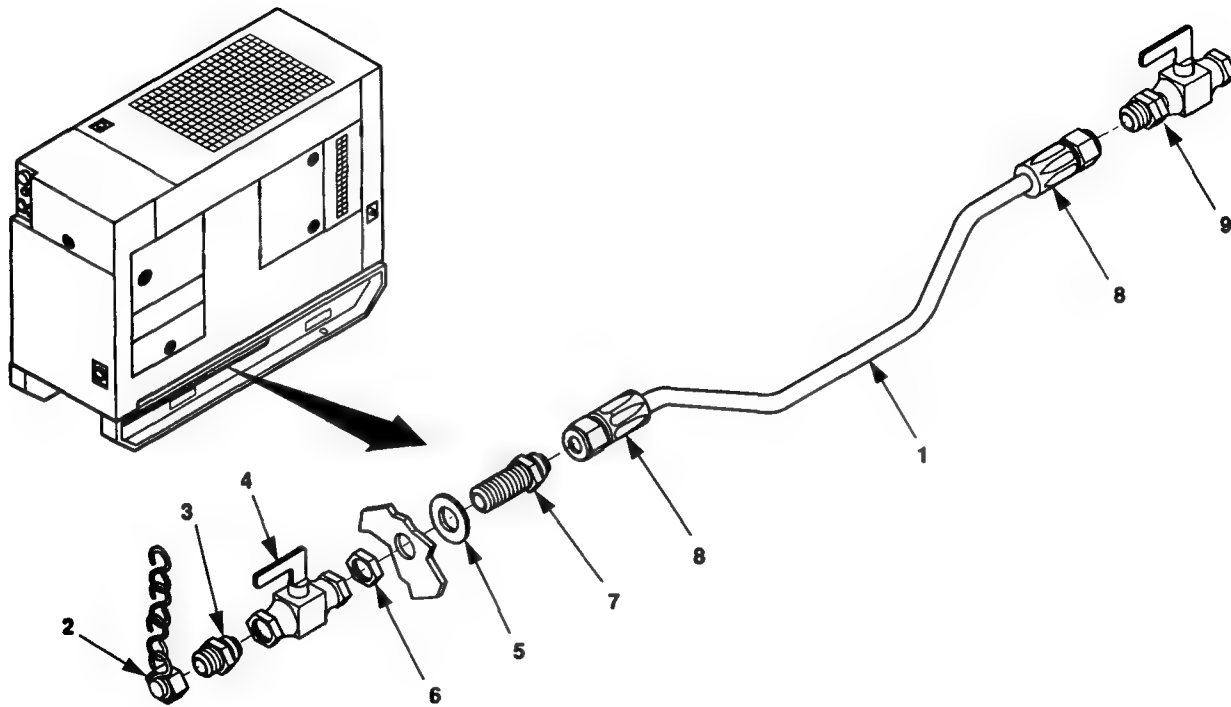

Figure 5-16. Fuel Drain Assembly Replacement.
1. Close drain cock valve (9, figure 5-16) and remove cap (2) from the fuel drain assembly.
3. Disconnect hose fittings (3) from drain cock valve (4).
4. Remove hose assembly (1).
5. Remove drain cock valve (4), retaining nut (6), and flat washer (5) from the tube nipple (7).
6. Remove tube nipple (7).